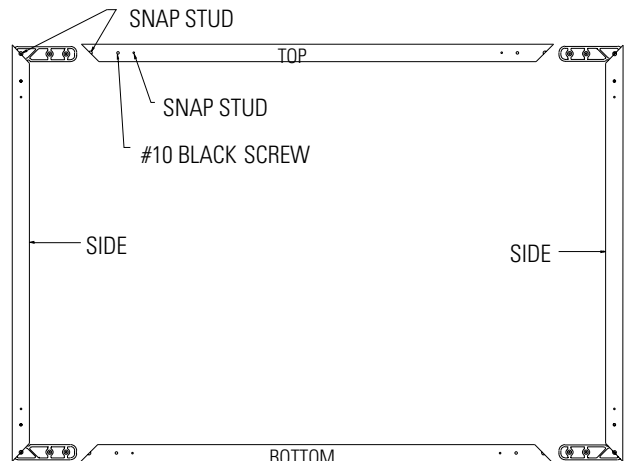

FIGURE 1. REAR VIEW
2. Slide the frame pieces together at corners. (Note: Frame assembly holes may not appear to fit properly at the corners until all fasteners have been attached. Once fasteners are attached, the frame corners will be drawn in for a proper fit.) Secure frame pieces with #10 screws provided. Do not tighten screws until all are started, then tighten. See Figure 1.